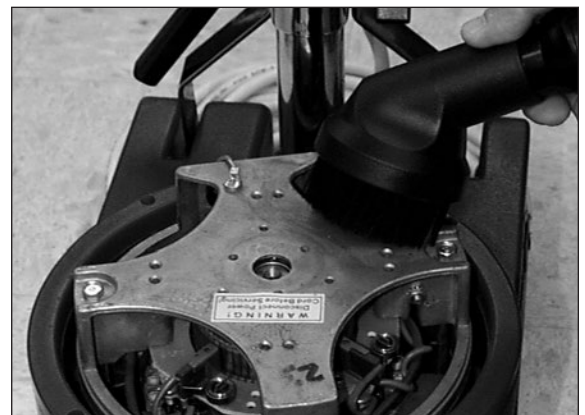

Fig 6
- Vacuum out any dust or debris which has accumulated in the motor. (Fig 6)